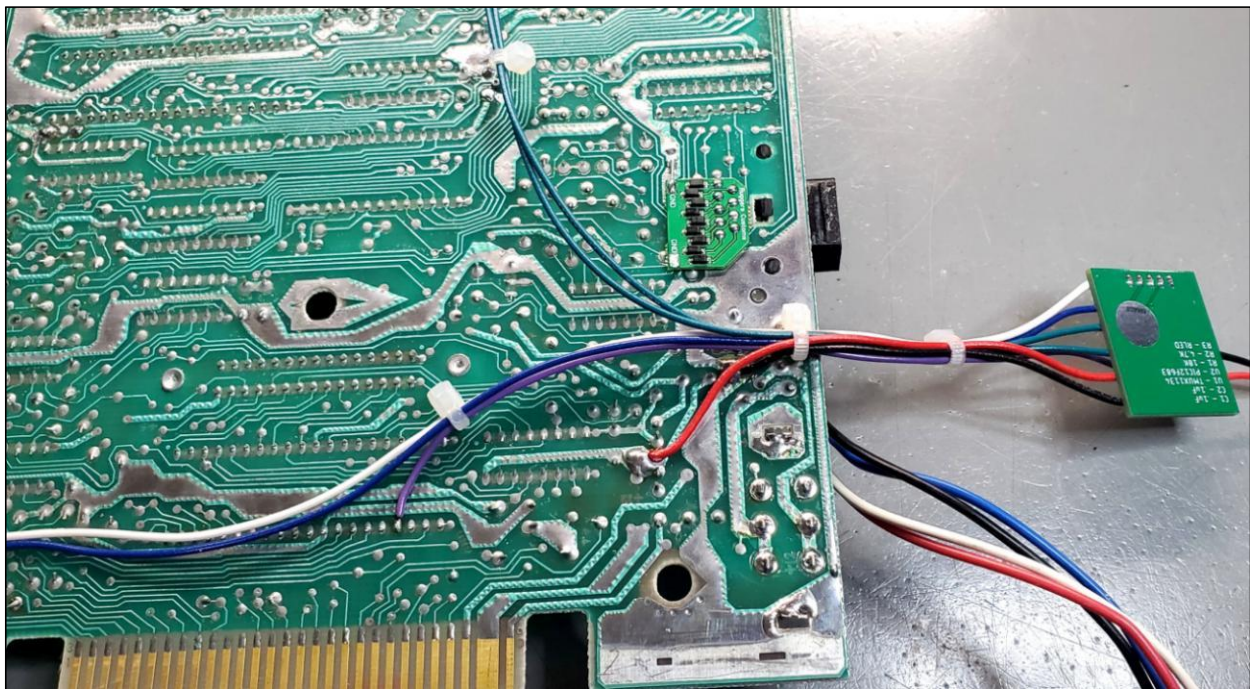

Figure 10: Install wire tie wraps
Step 8: Remove PCB from lower housing and install wire cable ties as shown in **Figure 10**.